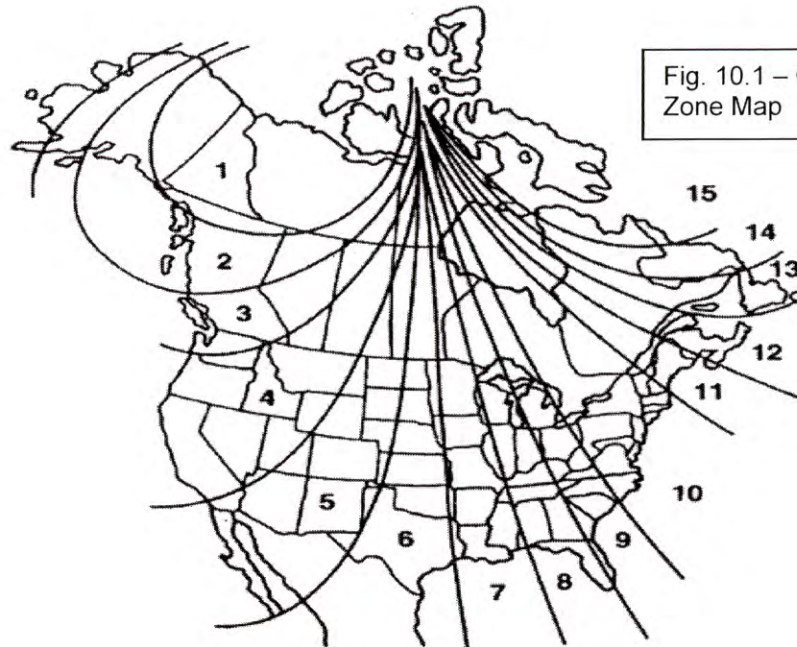

Fig. 10.1 – Compass Calibration Zone Map
- 10.1 Compass Zone Adjustment - **NOTE:** The zone setting is factory preset to Zone 8. Refer to Compass Calibration Zone Map (See Fig. 10.1) to verify the correct compass zone setting for your geographical location.